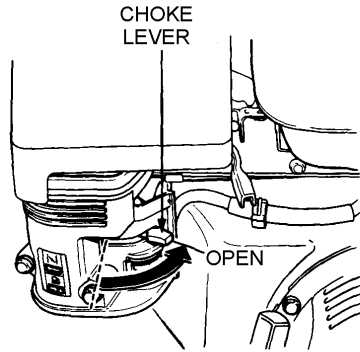

Figure 13. Choke Lever (Open)
7. If the engine has started and the choke lever was moved to the **CLOSED** position to start the engine, gradually move the choke lever to the **OPEN** position (Figure 13) as the engine warms up. If the engine has not started repeat steps 1 through 6.